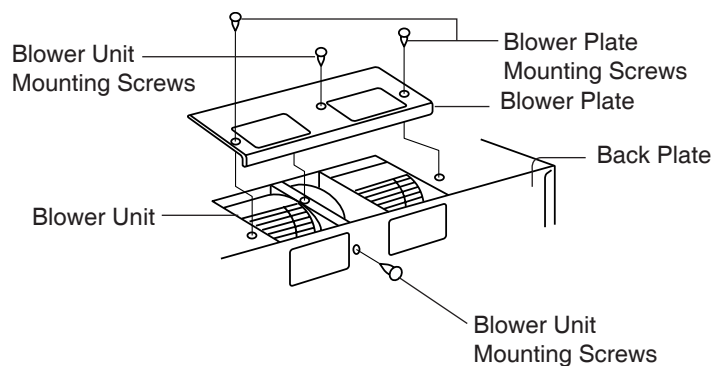

Fig. 1-2-1
- (1) Remove two blower cover plate mounting screws and two blower unit mounting screws (top and rear). (Fig. 1-2-1)
- (2) Remove the blower plate from the product. (Fig. 1-2-1)
- (1) Remove two blower cover plate mounting screws and two blower unit mounting screws, top and rear. (Fig. 1-2-1)
- (2) Remove the blower cover plate from the product. (Fig. 1-2-1)